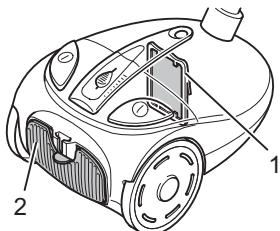

Fig. 22
- If the dust filter bag is defective, a protective motor filter (Fig. 22/1) prevents larger particles from destroying the motor.
- A hygienic blow-out filter (Fig. 22/2) filters the finest particles from the blown-out air.